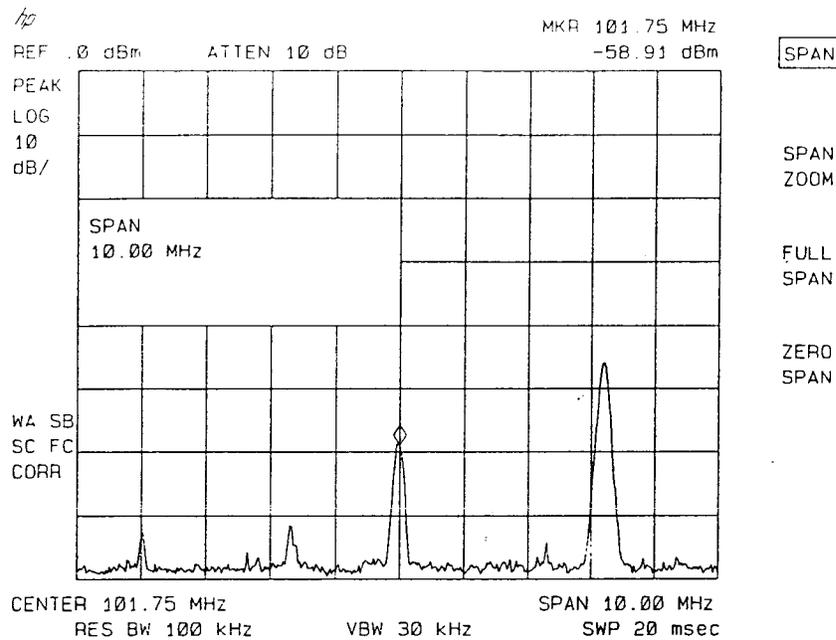

Figure 2-16. Low-Level Signal
5. Reduce the span to 10 MHz. Press **SPAN**, and then use the step-down key (**▼**). See Figure 2-16.